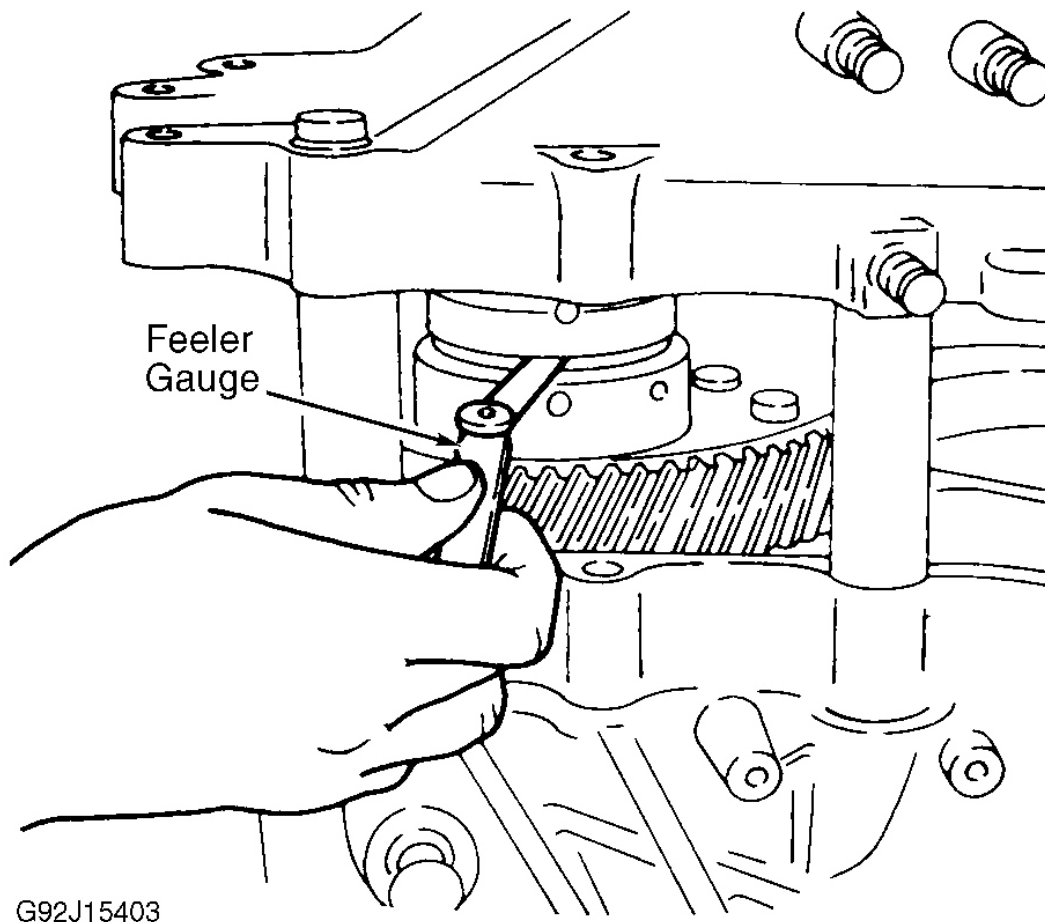

Fig. 39: Measuring Differential Preload
1. Install front bearing cup into converter housing using appropriate bearing cup replacer. Insert differential gear into converter housing. Place rear bearing cup over differential bearing and 6 collars of Shim Selector Set (T88C-77000-JF) on converter housing. See Fig. 39.
5. Using a feeler gauge, measure gap between 2 halves of shim selection gauge in 4 locations at 90 degree intervals. See **Fig. 39**. Add .012" (.30 mm) to the largest measurement. This will provide preload. Select the shim closest in value to the measurement. Use no more than 3 shims. Shims are available in thicknesses of .020-.057" (.50-1.45 mm) in .001" (.025 mm) increments.